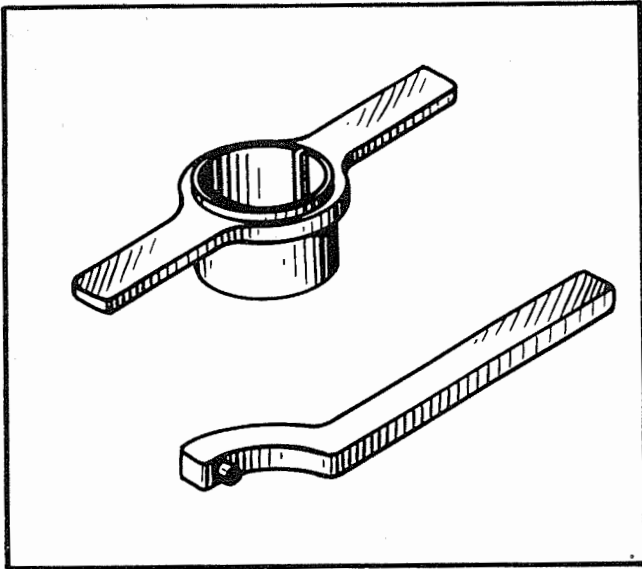

Figure 7-95. Ignition Cable Main Primary Lead Nut and Holder
d. In the event it is necessary to remove the smaller nut at the rear end of the main primary lead, use wrench and holder 806119. See figure 7-95.